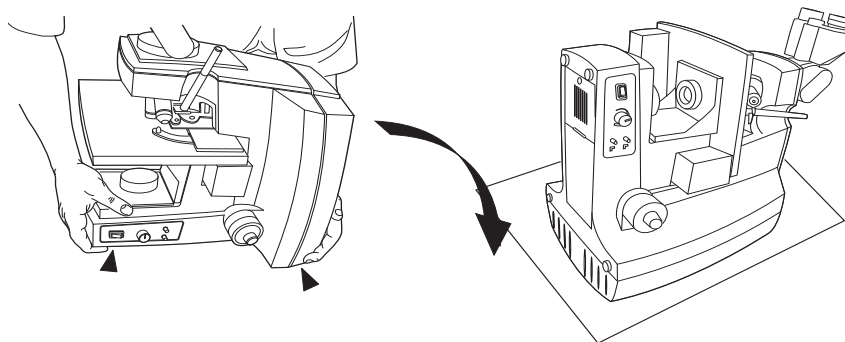

Figure 5-3 Position the Scope On Its Back Cover
- Grasping the scope by the bottom of the housing, gently tilt the microscope over onto its back cover. (Refer to Figure 5-3.) A soft material, (such as paper, cloth or cardboard) may be placed under the microscope to avoid scratching it or the desk top.